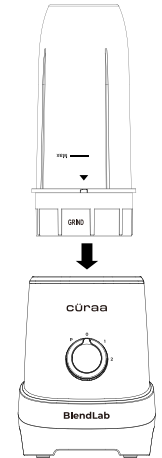

Fig. 6
- Put the Jar onto the motor unit. Make sure the Locking pins of the Jar are in correct position on three grooves of the motor unit. (Fig. 6).